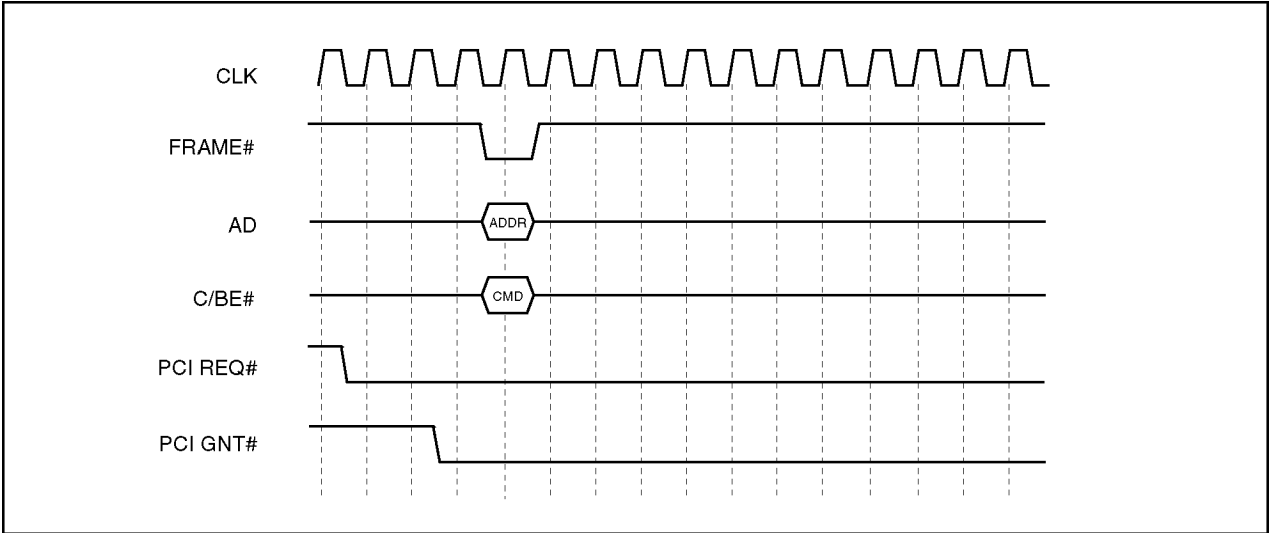

Figure 3-1. Bus Acquisition Timing
Refer to Figure 3-1. Bus acquisition timing cycles are defined by the C/BE[3:0]# command lines during the address (AD) phase of each PCI cycle.